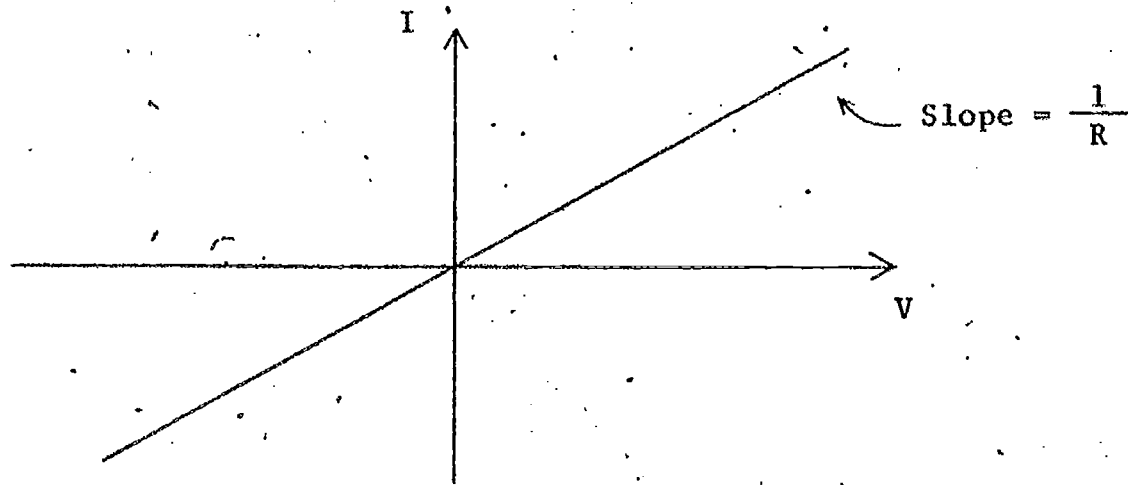

Figure 1 - Plot of Equation 1.
This phase is concerned with the current - voltage relationship of a linear resistor. If we assume that the resistance is constant, a plot of equation (1) results in a straight line which passes through the origin and has a slope of $\frac{1}{R}$ on these coordinates. This is illustrated in Figure 1: